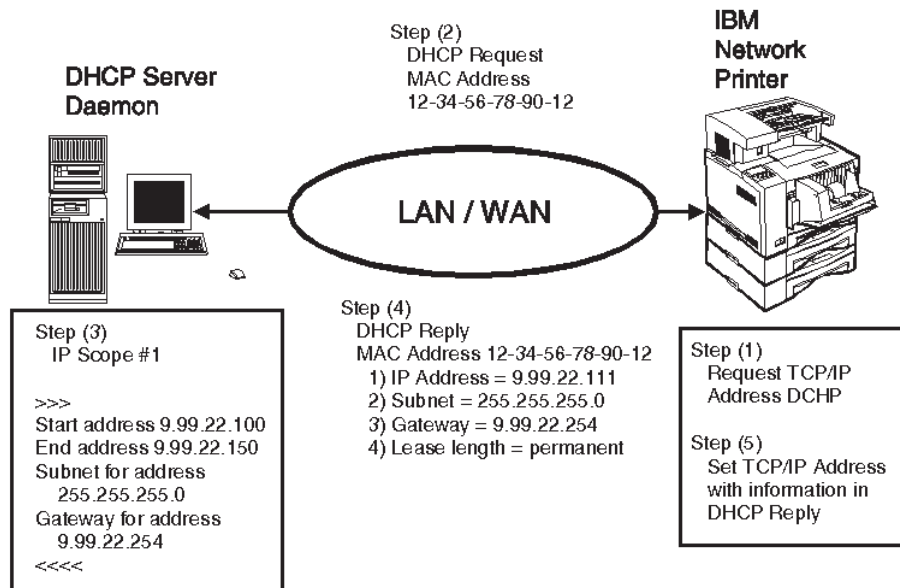

Figure 12. Network Printer DHCP Model
1. Network administrators can set up their routers to enable forwarding of DHCP requests and replies across the entire enterprise. Figure 12 shows the network transaction of a DHCP request between a new IBM network printer and a DHCP server.